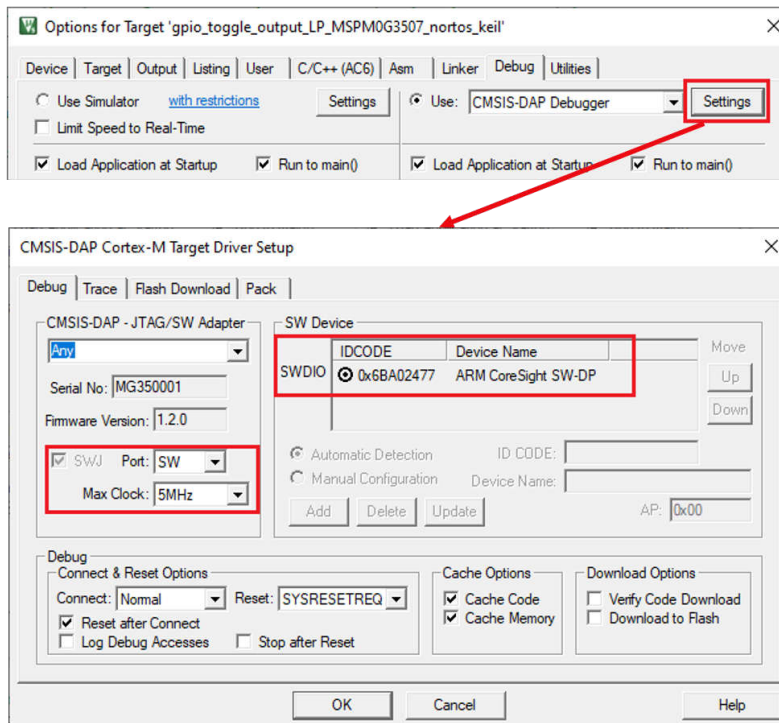
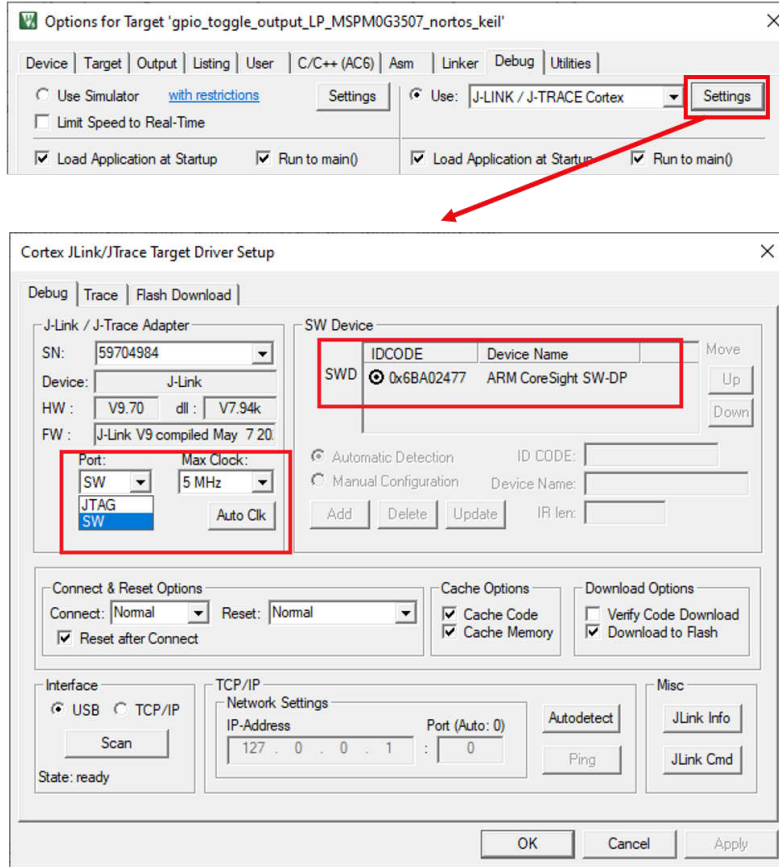

Figure 3-48. Check the Setting of XDS110 Probe
Figure 3-49. Check the Setting of J-Link Probe
- Click on the *Settings* button. On the *Debug* tab, make sure the settings match with Figure 3-48 and Figure 3-49.